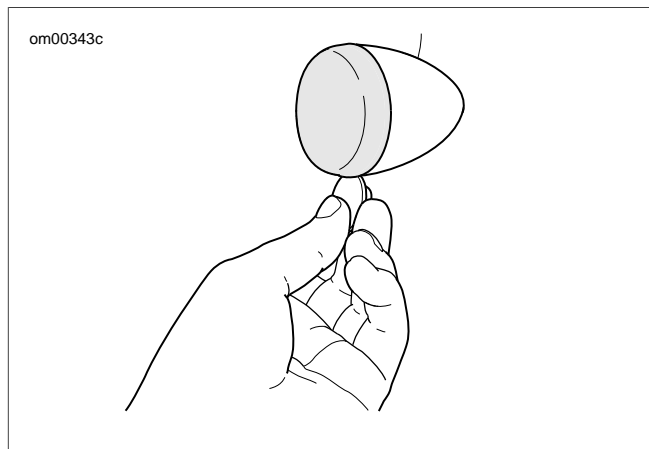

Figure 51. Remove Lens
1. See Figure 51. Insert coin in notch. Carefully twist until the lens cap pops out of the lamp housing.